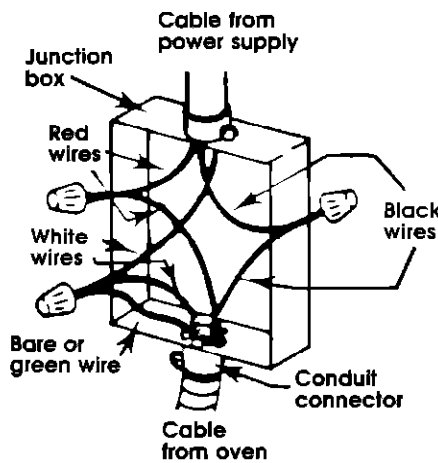

Figure 1
3. Connect the two black wires; then the two red wires. (See Figure 1.)